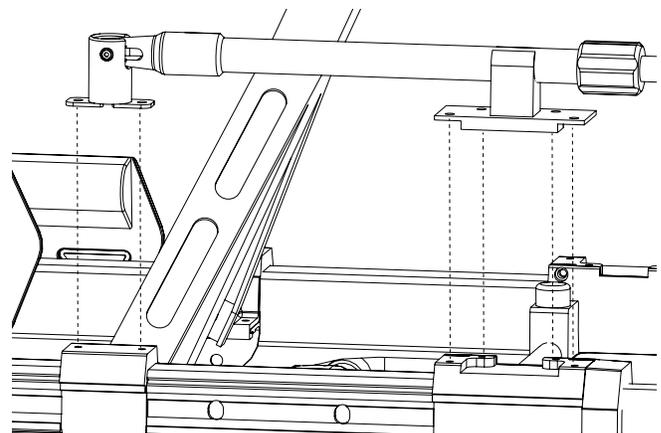

Figure 5: Stretcher preparation - Slider block cover/IV pole and clip removal
6. Remove the slider block cover (4 screws; Figure 5 A).
7. Remove the IV pole and clip (6 screws; Figure 5 B).
5. Reinstall the slider block cover (4 screws; Figure 5).